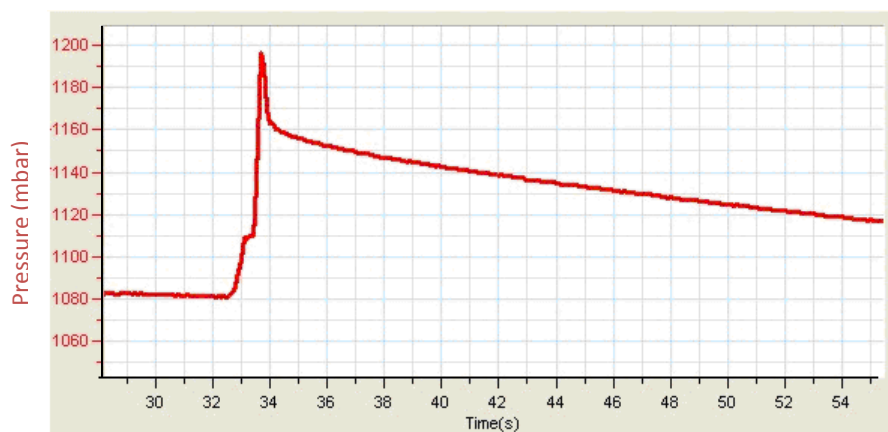

Figure 4
5. If the pressure drops (see Figure 4), there is a leak. Check your seals carefully and use a material such as modeling clay to seal off any possible openings. Repeat step 4. If that doesn't help, replace the stopper.